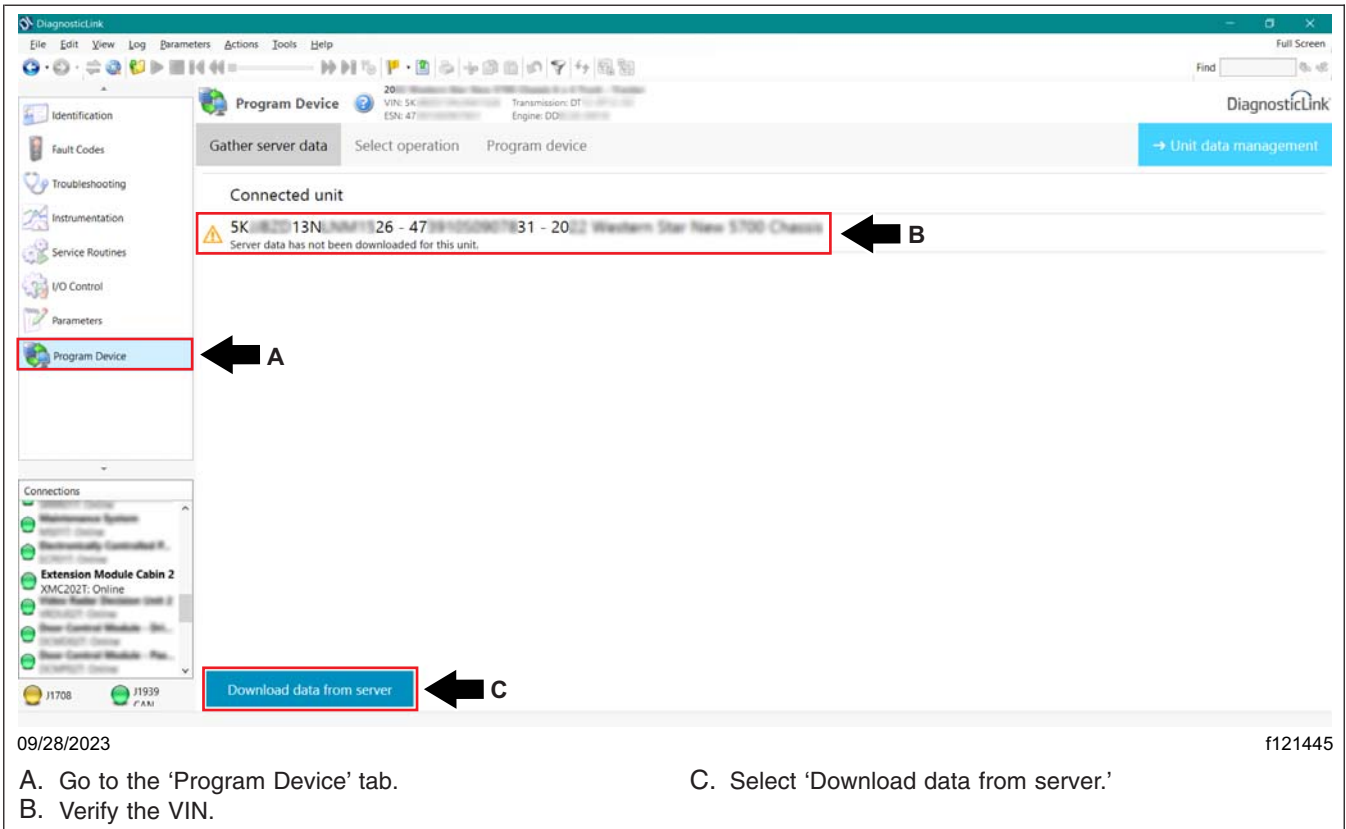

Fig. 81, Downloading Data from the Server
38.4 Go to the 'Program Device' tab, and make sure that the vehicle identification number (VIN) is correct. Select 'Download data from server.' **Fig. 81.**